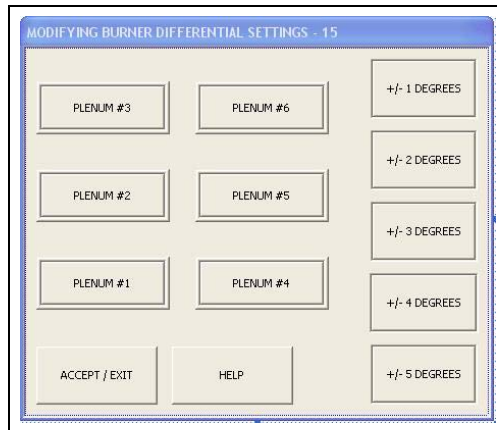

Figure 5U
2. **Differential:** The  button will display the “Modifying Burner Differential Settings” screen. (See Figure 5U.) Adjusting the burner differential settings allows the operator to keep the plenum temperature within a certain range.